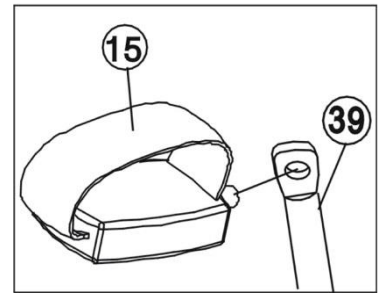

Figure 10
Attach the Left & Right pedals (15/16) to the Crank axis (39). The Left Pedal (15) should be threaded on counter-clockwise. The Right Pedal (16) should be threaded on clockwise. (Refer figure10)